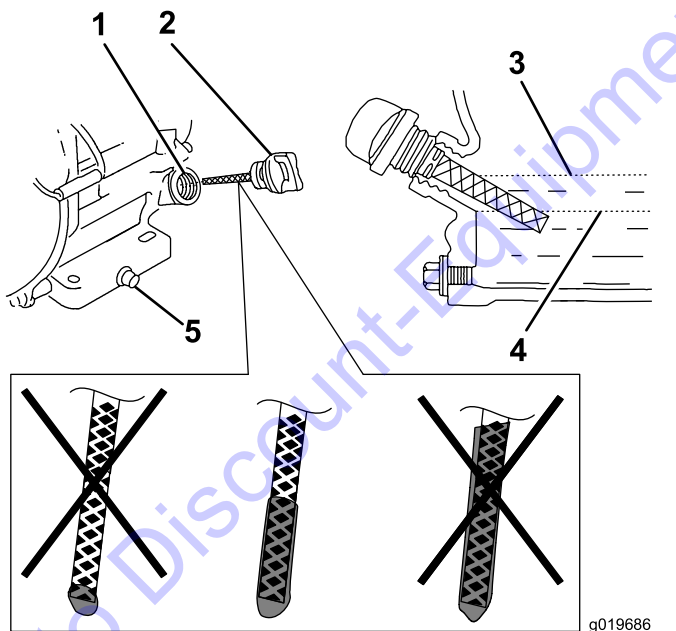

Figure 18
3. Clean around the oil filler cap/dipstick (Figure 18).
Note: If oil level is near or below the lower limit mark on the dipstick, add only enough of the specified oil to raise level to the upper limit mark (bottom edge of the oil fill hole); refer to Figure 18.
7. Check level of oil (Figure 18).
8. Install the oil filler cap/dipstick and wipe up any spilled oil (Figure 18).
4. Remove the oil filler cap/dipstick by rotating it counterclockwise (Figure 18).
4. Fill the crankcase with the specified oil; refer to Figure 18 in Checking the Engine-Oil Level (page 21).